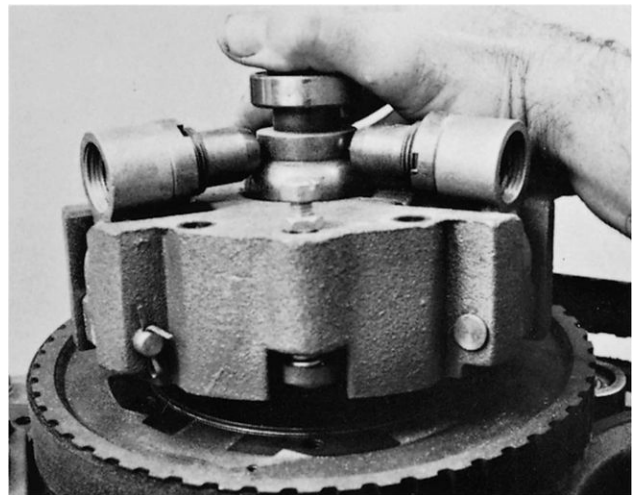

**Fig 9-3**
(4) Swing the clutch operating mechanism out of the way.
**NOTE:** The punch marks on the arm plate and the driven gear (Fig. 9-3) must be reassembled together. These parts are balanced as a unit. If the punch marks cannot be located, be sure to mark the arm plate and the driven gear before disassembly.